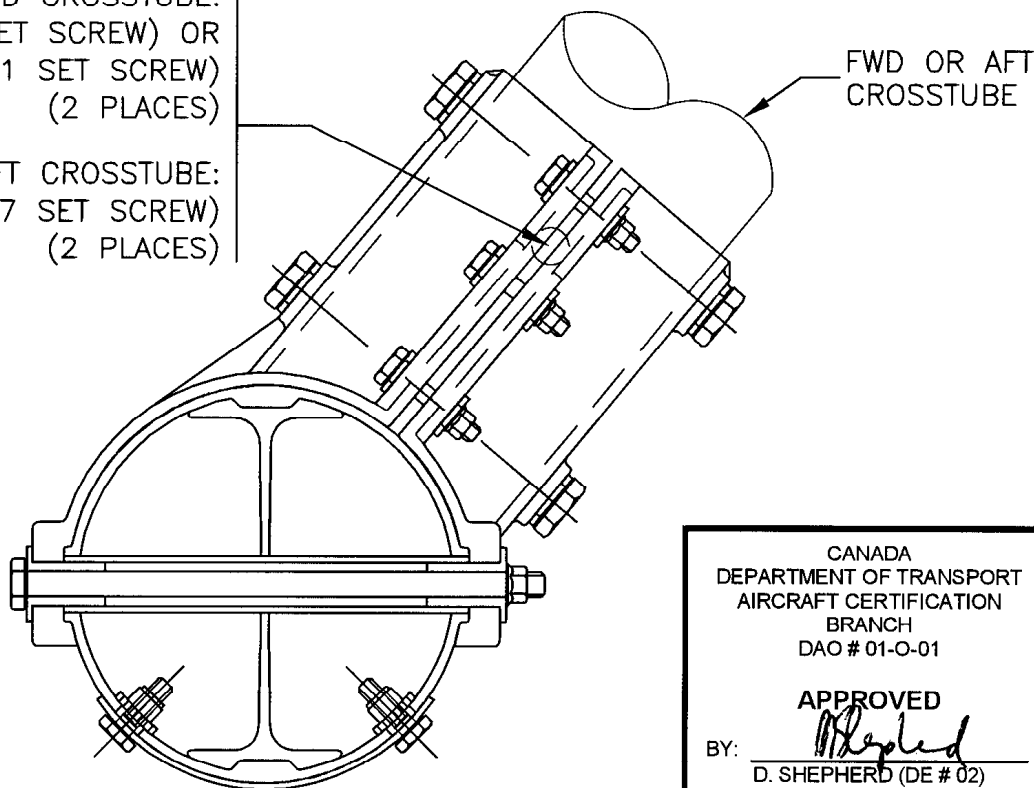

Figure 1 – Set Screw Option
If installing the Dart Skidtubes onto Bell/AAI crosstubes, install qty (2) D2747 (item 32) or qty (2) D3533-1 (item 33) set screws in the forward/aft holes of the forward crosstubes as required per Figure 1. Install qty (2) D2747 (item 32) set screws in the forward/aft holes of the aft crosstubes per Figure 1. Prime with zinc chromate primer and install wet.